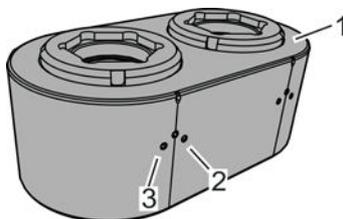

Fig. 128: Filling in glycerine
21. ▶ Insert glycerine into one of the threaded boreholes (Fig. 128/2) until it emerges again at the second threaded borehole (Fig. 128/3).
22. ▶ Seal the threaded boreholes (Fig. 128/2, 3) with screw plugs.